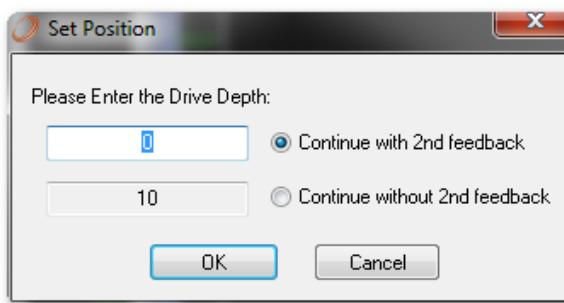

Figure 94: Set Position Dialog Box
- a. If the **Set Position** dialog box appears (*Figure 94*), do the following:
In the **Set Position** dialog box (see *Figure 94*), select **Continue with 2nd Feedback**.